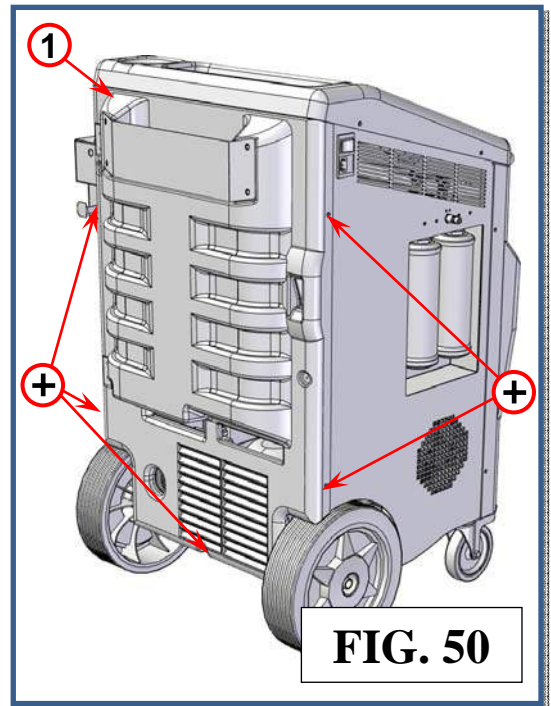

FIG. 50
Remove the rear plastic (ref 1, Fig.50) cover to access the machine bottles.